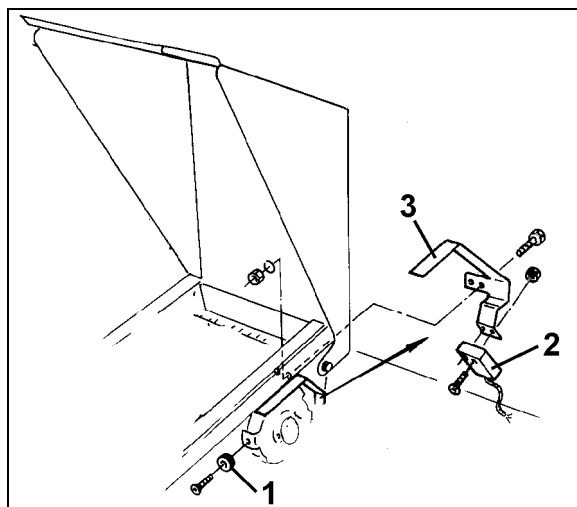

Fig. 11
Mount sensor and magnet on **ED 1** (Fig. 11) to the input of the sprocket wheel setting gearbox:
1. Bolt magnet (Fig. 11/1) with self thread cutting bolt M4 x 10 to the impulse disc of the gearbox input shaft.
2. For fixing the sensor slacken impulse carrier (Fig. 11/3) and retighten afterwards.
3. Bolt sensor (Fig. 11/2) to the impulse carrier (Fig. 11/3).